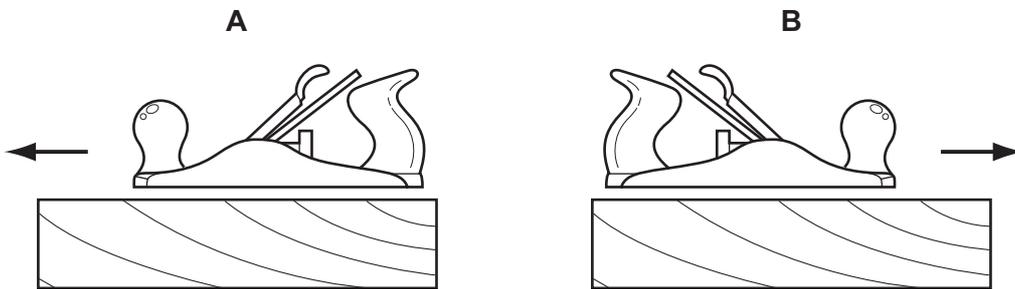

Fig. 5
- 8 Study Fig. 5 and explain why the plane would cut well if used as in **A**, but tear the wood if used as in **B**.